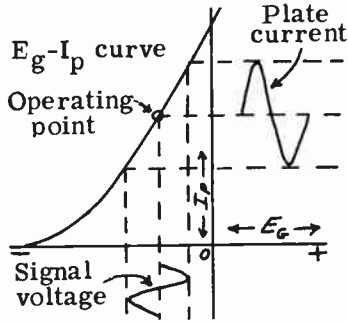
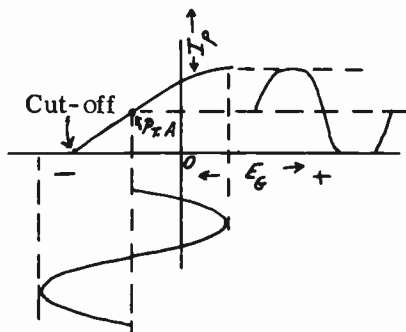

FIG. 9-2. CLASS A OPERATION.
FIG. 9-14. DISTORTION DUE TO EXCESSIVE SIGNAL VOLTAGE.
**CLASSIFICATION OF AMPLIFIERS.** Amplifiers are classified into general categories (Class A, Class B, Class C), according to the work they are intended to perform and the manner in which they are operated. The classification is determined by the bias of the amplifier, which, in turn, determines the manner in which the amplifier will operate. The audio amplifier is invariably operated either Class A, Class AB or Class B, while Class C amplifiers are usually associated with the radio-frequencies (RF).
**CLASS A AMPLIFICATION.** A graphical illustration of Class A amplification is given in Fig. 9-2. This graph is actually a plate current-grid voltage characteristic curve of the Class A amplifier. The bias voltage or operating point is at the mid-point of the straight line portion of the curve. Because the tube is operated on the straight or linear portion of the curve, the PLATE CURRENT VARIATIONS ARE AN EXACT REPRODUCTION OF THE INPUT SIGNAL. Thus we see that a Class A amplifier gives us excellent fidelity or minimum distortion. If we were to operate on the curved portion of the tube, distortion would be introduced.
(1) Too high an input signal (signal overloading): Excessive excitation voltage will drive the grid positive with respect to the cathode on the positive peaks of the signal. A positive grid draws grid current, which results in distortion of the signal. The negative peaks of the signal may drive the grid so negative that the tube will be driven into cutoff and distort the signal. See Fig. 9-14. Compare this graph with Fig. 9-2.